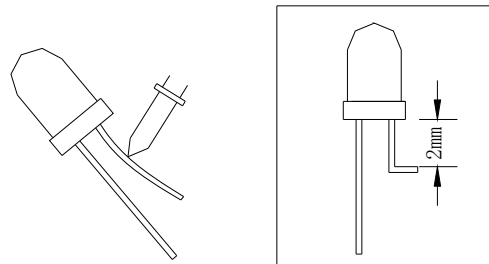

Fig. 7
- 1) The lead should be bent at a point located at least 2mm away from the package. Bending should be performed with base fixed means of a jig or pliers (Fig.7)